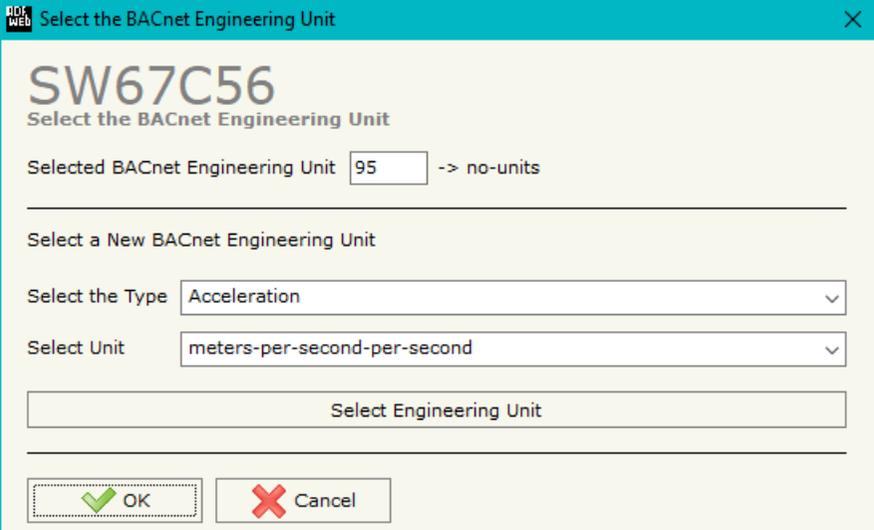

Figure 8: "Select the BACnet Engineering Unit" window
- In the field “**Eng. Unit**”, with double click the window “*Select the BACnet Engineering Unit*” appears (Fig. 8);